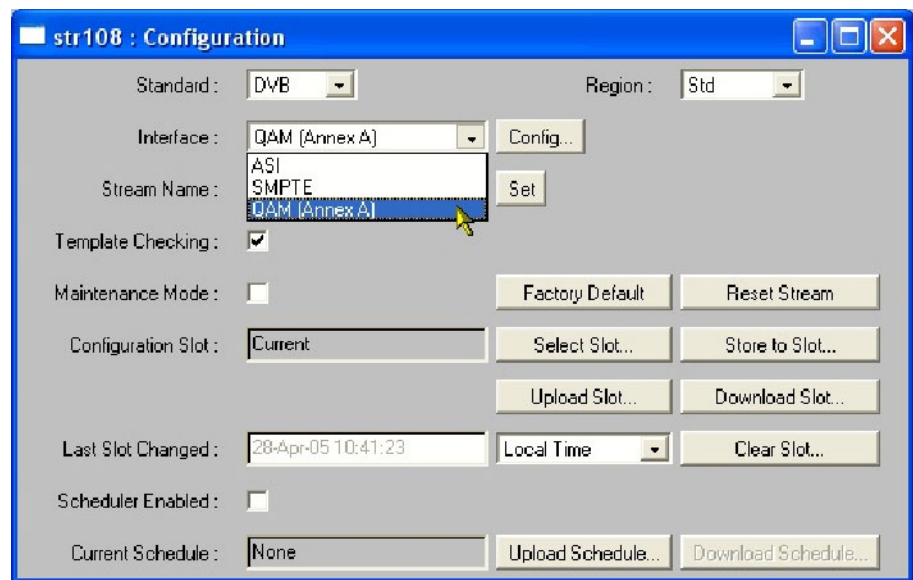

Figure 33: Selecting the interface
3. On the Stream Configuration screen, select the desired interface from the Interface drop-down list. Figure 33 shows the QAM (Annex A) interface being selected.